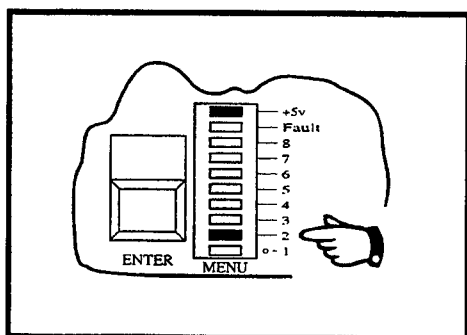

Figure 3-7
- (b) Press the blue **FUNCTION** key **TWICE**. The **Menu** display should cease scrolling and the segment labelled **2** should illuminate. This segment identifies the SPAN menu function. See Figure 3-7.
- (h) Press the blue **FUNCTION** key **ONCE**. The segment labelled **2** on the **Menu** display should illuminate. This segment identifies the SPAN menu function. See Figure 3-7.
- (b) Press the **FUNCTION** key **TWICE**. The LED segment labelled **2 ON** the **Menu** display should illuminate. This identifies the SPAN menu function. See Figure 3-7.